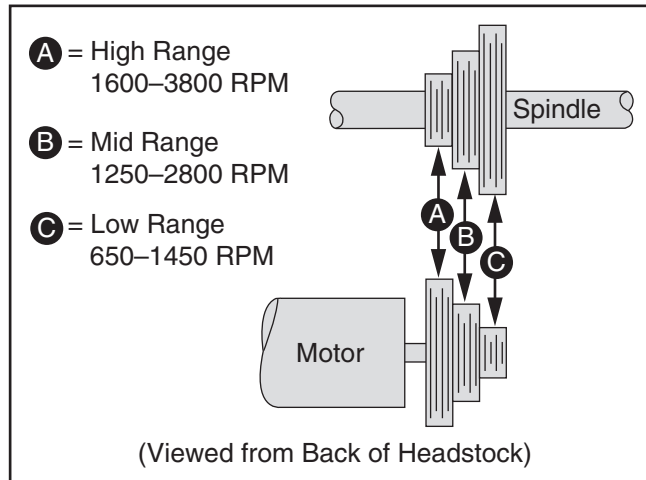

Figure 19. Speed ranges for each belt position.
4. Locate desired speed on speed chart on top of control box, then move belt to necessary grooves on motor and spindle pulleys (see **Figure 19**).